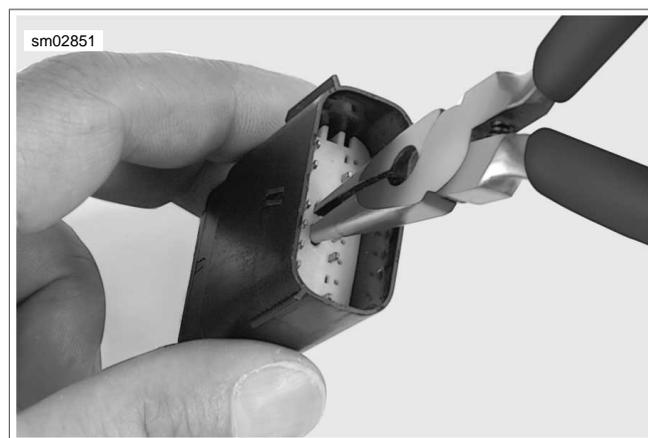

Figure A-29. Pull Up Secondary Lock (Pin Housing)
- b. **Pin Housing:** See Figure A-29. Use needle nose pliers to engage the D-holes in the center of the secondary lock.